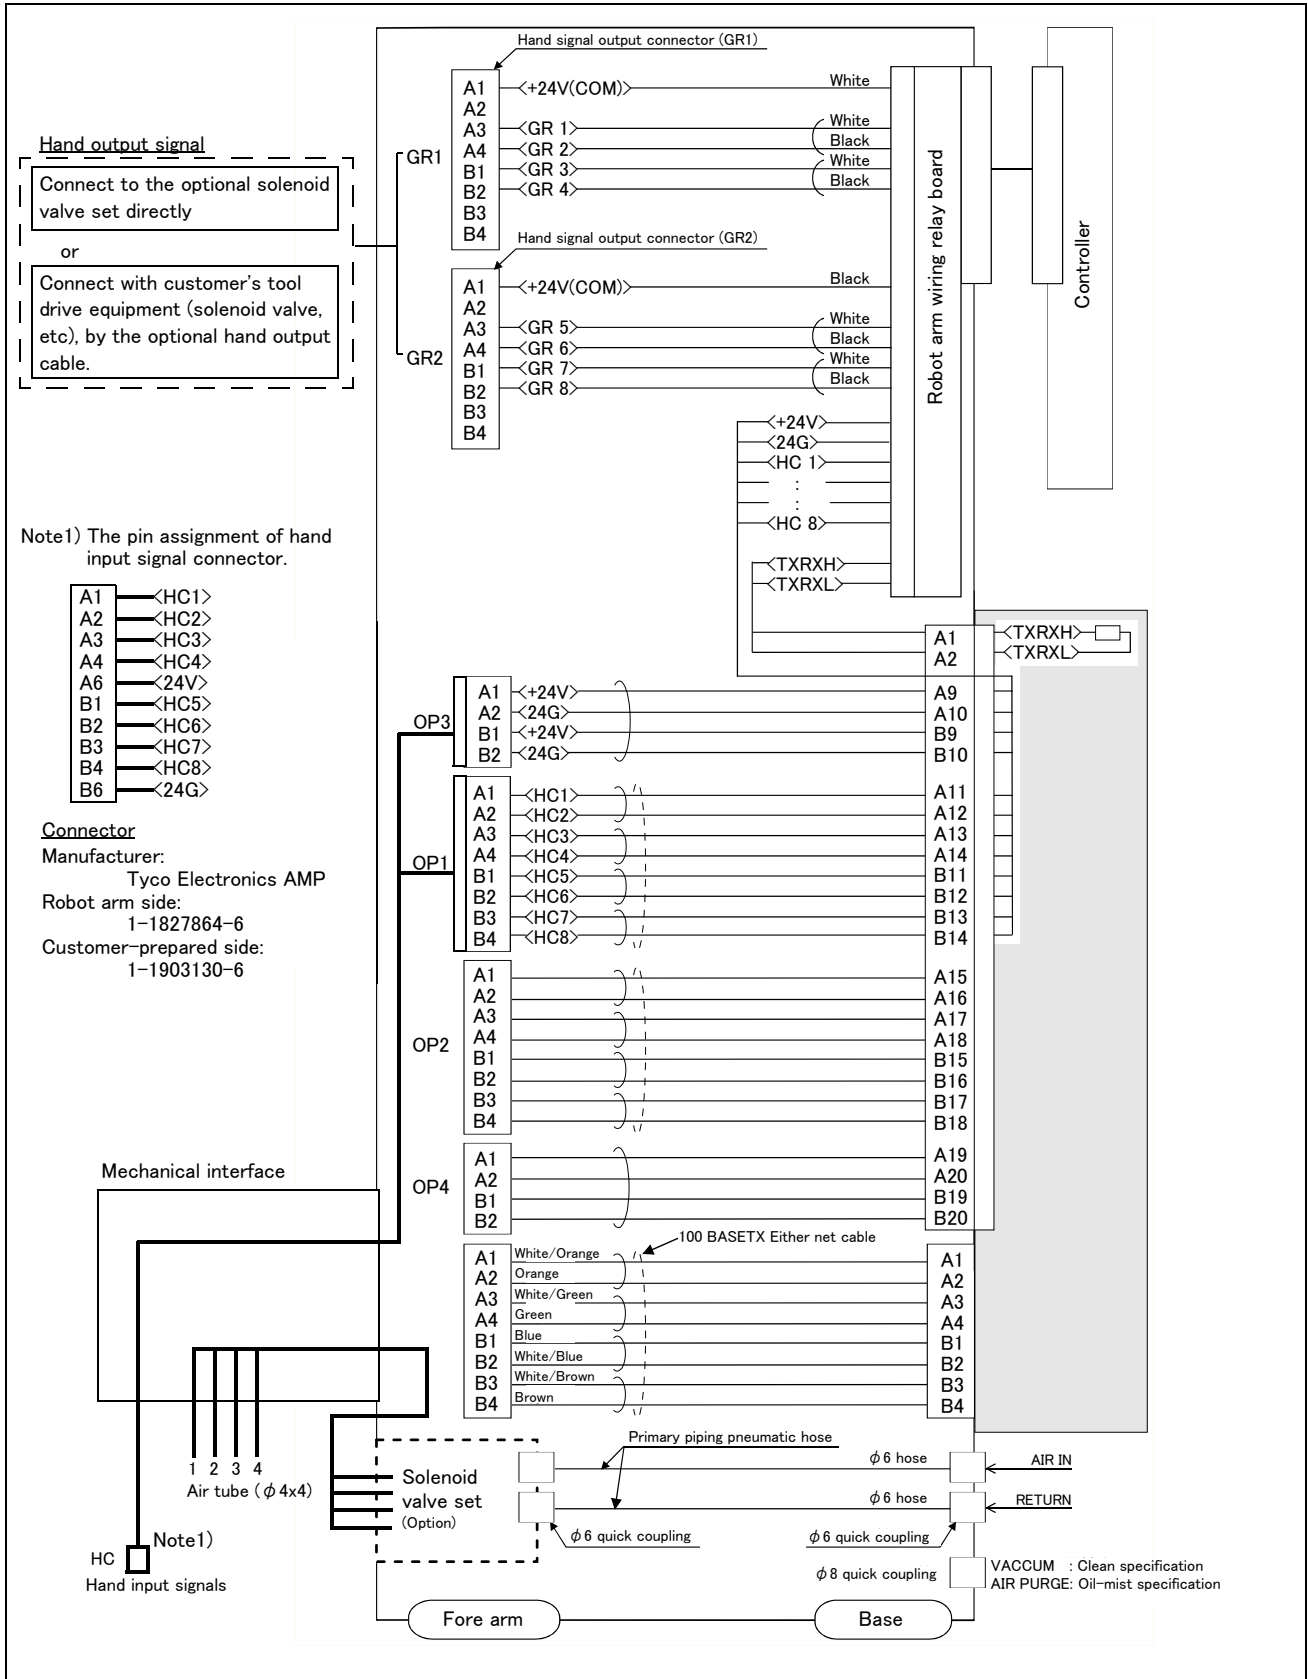

Fig.2-34 : Wiring and piping system diagram for hand and example the solenoid valve installation: RV-4F/7F/13F series SH01
- *3) Refer to Fig. 2-34 for pin assignment of the hand input cable (HC).